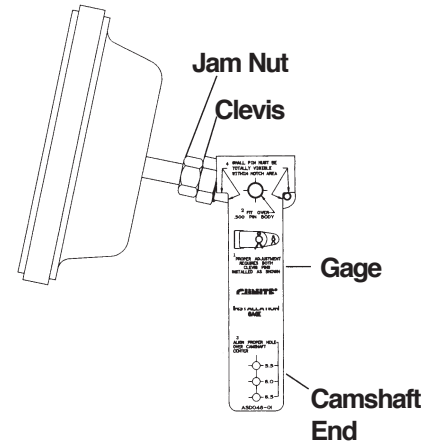

Figure 3 - Gage Location
2. Using the gage supplied, insert the large pin through the large hole at the top of the gage and into the clevis. Center the proper 1/4 inch hole at the bottom of the gage over the center hole of the camshaft (**Figure 3**). Adjust the clevis until all of the 1/4 inch pin hole is visible in the notch area of the gage. Double check the installation by making sure the 1/4 inch hole at the bottom of the gage is still centered on the camshaft when the 1/4 inch pin hole is visible.
3. Using the gage supplied, insert the large pin through the large hole at the top of the gage and into the clevis. Center the proper 1/4" hole at the bottom of the gage over the center hole of the camshaft (Figure 3). Adjust the clevis by rotating the 3/4" collar until all of the 1/4" pin hole is visible in the notch area of the gage. Double check the installation by making sure the 1/4" hole at the bottom of the gage is still centered on the camshaft when the 1/4" pin hole is visible.